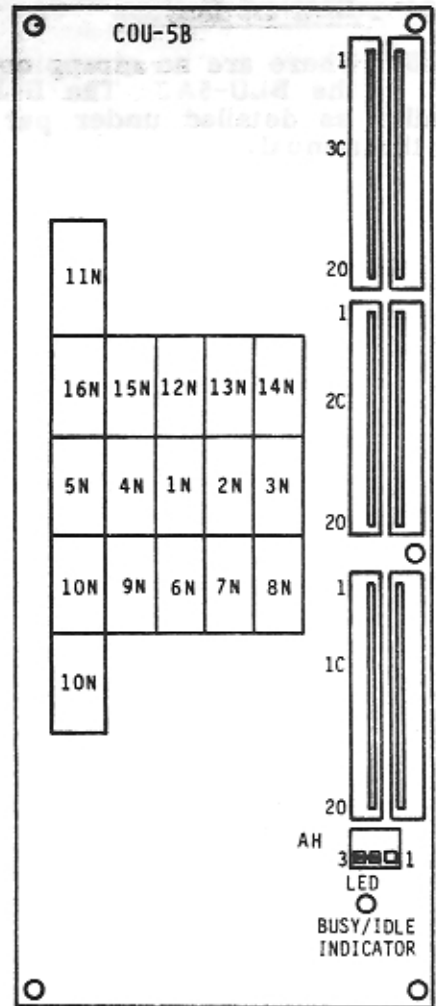

Figure 6 - COU-5B Card Layout
4.26 An AH option connector has been added to the COU-5B card to provide the 90 msec or 600 msec automatic release time on held calls. Figure 6 shows the layout of the COU-5B and AH option connector location.